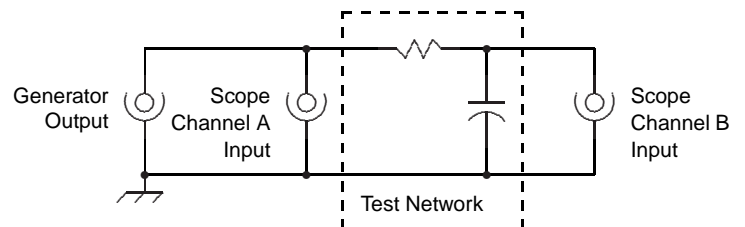
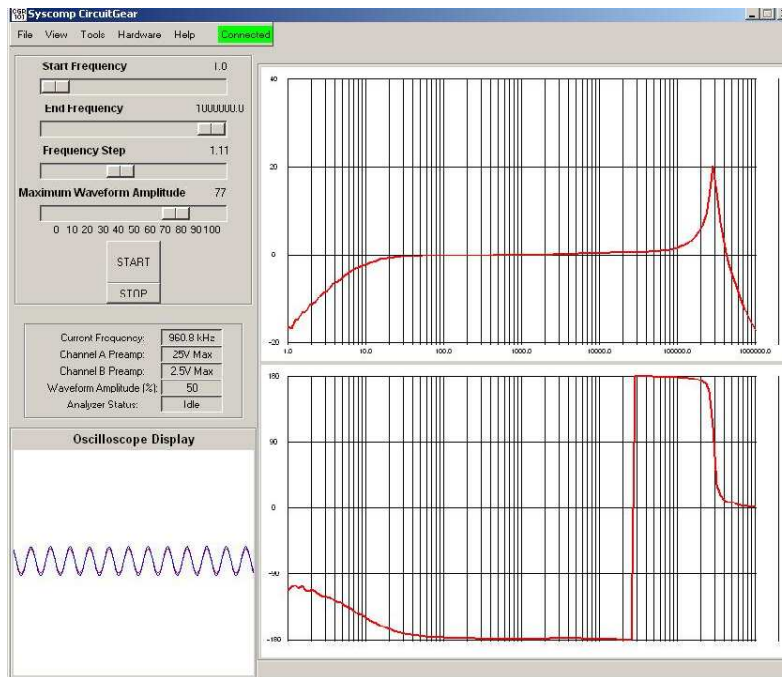

Figure 6: Network Analyser Wiring
Figure 7: Vector Network Analyser
Figure 7 shows a screen shot of a VNA plot of a single-pole RC lowpass filter. Figure 6 shows how the test circuit must be wired. Notice that there is no internal connection between the generator output and the channel A input.
To measure the impedance of some other two terminal device such as an inductor or loudspeaker, connect it in place of the capacitor in figure 6. Choose the resistor to be larger than the maximum impedance of that component. Then, in effect, the device is driven by a constant current and the voltage across the device is proportional to its impedance.
- The amplitude dynamic range of the VNA is in excess of 50db. The VNA automatically adjusts the input signal attenuators of the oscilloscope section to obtain the best possible signal-noise ratio without clipping. It also uses the full 10 bit range of the oscilloscope A/D converters. In the frequency response plot of figure 7, the amplitude and phase plots become erratic at high frequencies. This occurs because the output signal from the low pass filter is extremely small in that region.